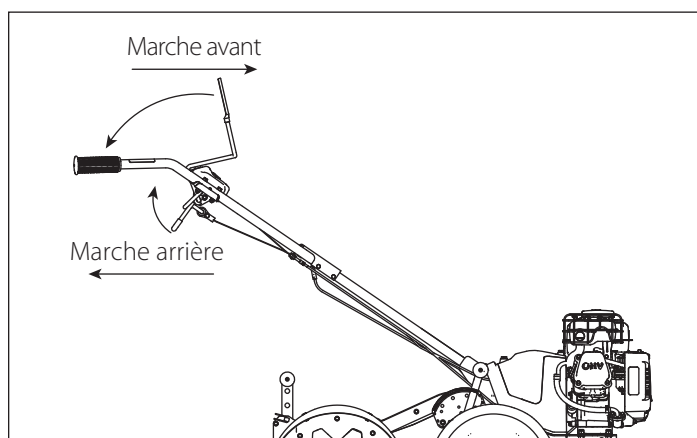

Figure 15
**LEVIERS DE COMMANDE D'ENTRAÎNEMENT :** VOIR FIGURE 15